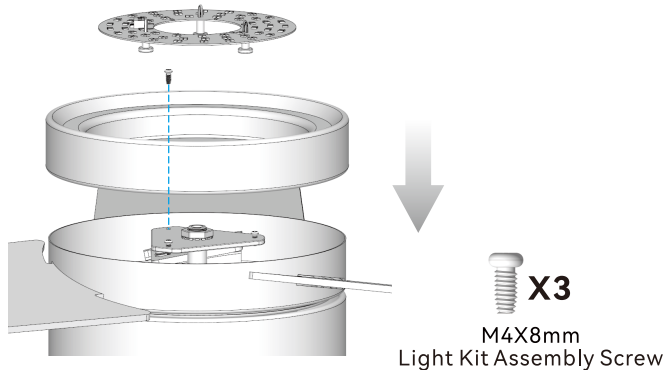

Fig. 3.1
3.2 Allow the wire plug to pass through the light kit. Reinstall the light kit. The light kit will be magnetically attracted to the pan with the help of magnets, as shown in Fig. 3.1.